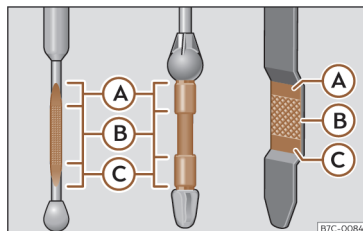

Fig. 230 Engine oil dipstick.
- Then pull it out again and check the oil level >>> Fig. 230. Top up with engine oil if necessary.
- When the oil level reaches at least zone >>> **Fig. 230 (B)**, carefully screw on the engine oil filler cap >>> .